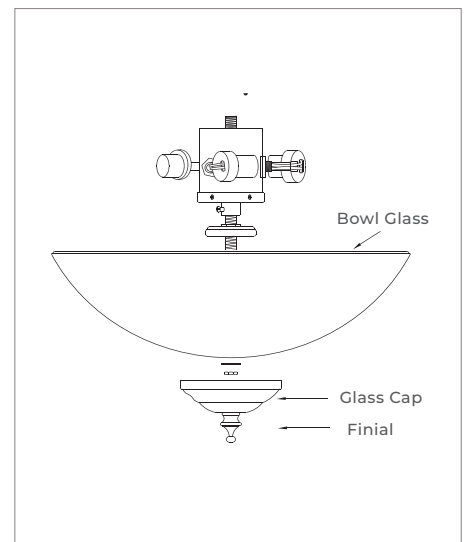

FIGURE 12
- 3) Lower chain through the hold in the shade and cap. Attach chain extensions (Fig 12)